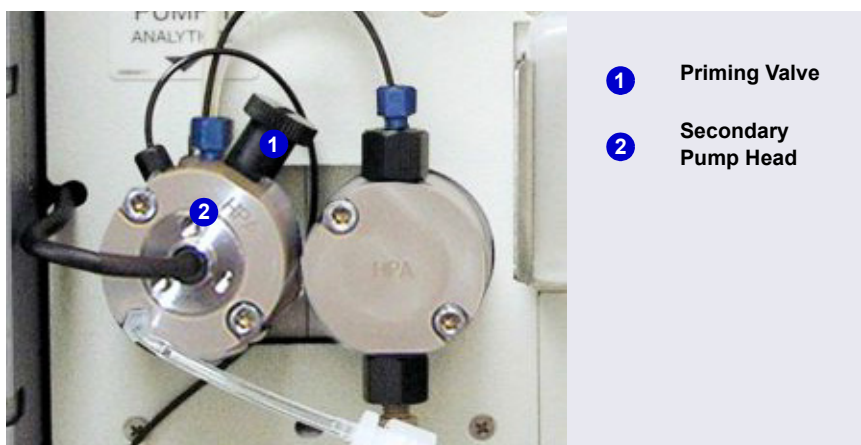

Figure 10-12. DP/SP Priming Valve
6. The priming valve knob is located on the secondary pump head (see Figure 10-12). To remove the knob, turn it counterclockwise all the way and then pull it straight off the pump head.